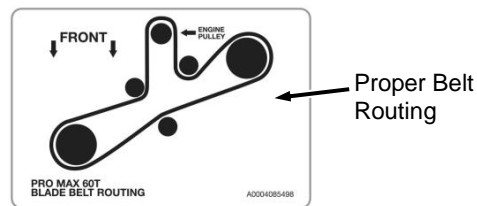

Figure 54
9. Perform a final check to ensure Belt is installed properly onto Clutch Pulley, Rear and Center Idler Pulleys, Tensioner Pulley, and both Blade Pulleys. Reference Belt Routing Label on the top of Deck (**Figure 54**).